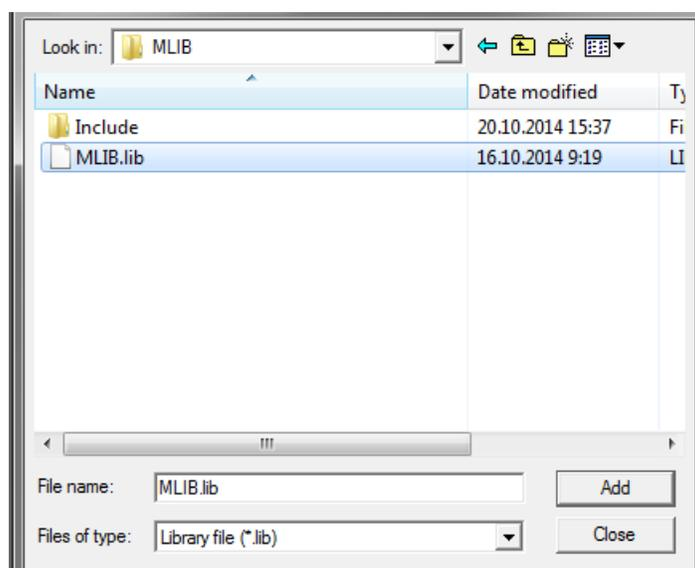

Figure 1-34. Adding .lib files dialog
5. Navigate to the parent folder C:\NXP\RTCESL\CM0_RTCESL_4.5_KEIL\MLIB, and select the *mlib.lib* file. If the file does not appear, set the Files of type filter to Library file. Click Add. See Figure 1-34.